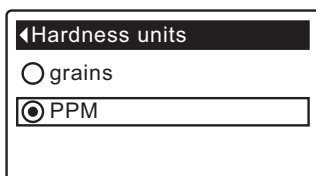

FIG. 52
5. Press the OK/MENU button to display the Hardness units menu (See Figure 52).
6. If the desired hardness unit already has a black dot next to it (See Figure 52), go to Step 7. Otherwise, press the DOWN ▼ or UP ▲ buttons to scroll to the other hardness unit, then press OK/MENU to choose it.